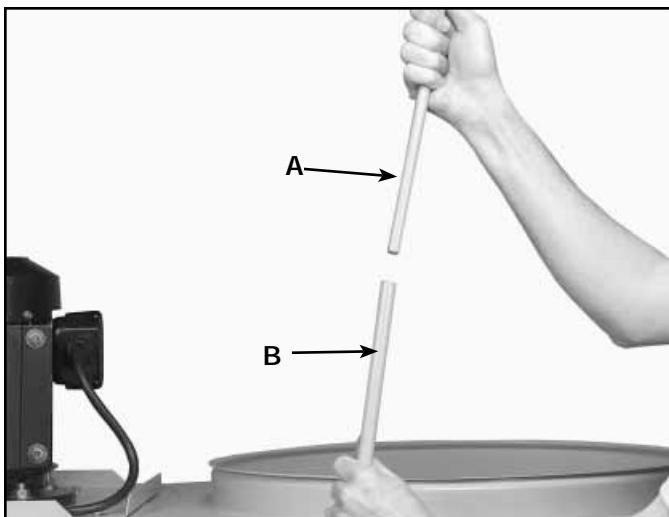

Fig. 11
1. Assemble upper (A) and lower (B) bag hanging rods as shown in Fig. 11.